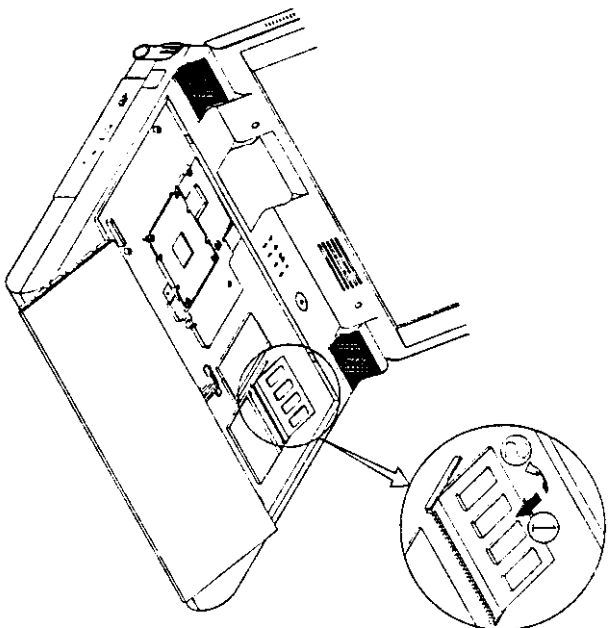

Figure 2-6
4. Insert the memory module at a slight angle and fit its connectors into the socket firmly. Push the module down and ensure it is locked into the place (Figure 2-6).